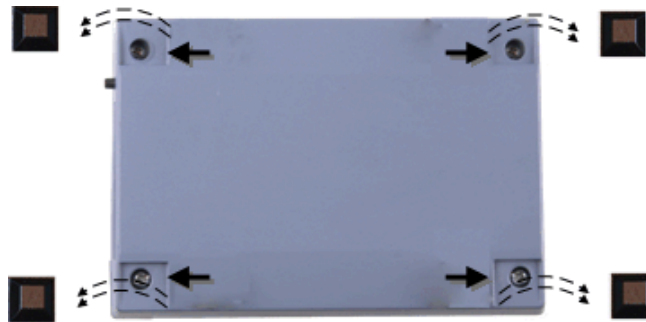

Figure 8. Location of screws connecting bottom and top sections of case
3. Remove the four screws shown in Figure 8 from the bottom of the device.